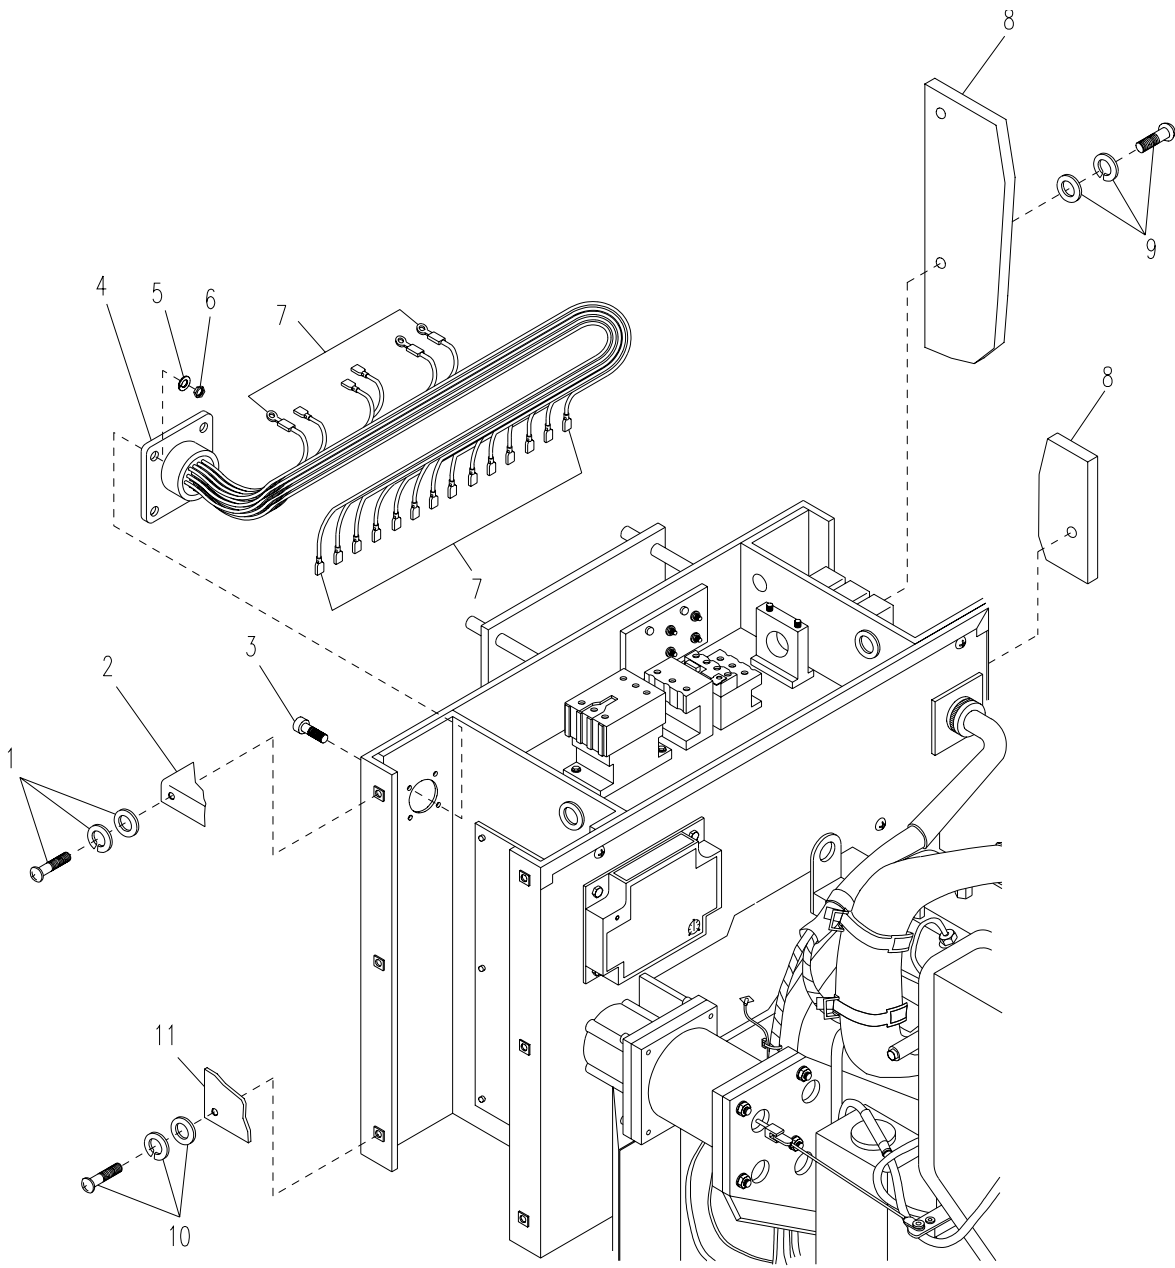

Figure 5-19. APU DC Box Wiring Harness J3
- Remove four screws (JTACS), or slotted hex-head bolts (SICPS and WIN-T), flat and lock washers (1, Figure 5-19), and generator housing top cover (2).
- Remove four screws (JTACS), or slotted hex-head bolts (SICPS and WIN-T), flat and lock washers (10), and generator housing side cover (11) (fuel transfer pump side).
- Remove two screws, wing nuts and lock washers (JTACS), or four slotted hex-head bolts (SICPS and WIN-T), flat and lock washers (9), and generator housing side cover (8) (muffler side).
- Refer to Table 5-1 and use a Multi-meter to test for continuity between pins at connector J3 (4) and corresponding leads.
- Using a Multi-meter, test for continuity between each pin position and connector shell of J3 (4).